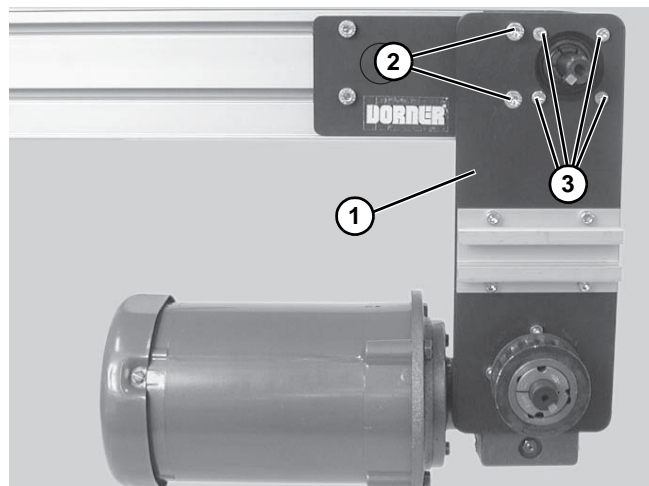

Figure 9
4. Attach mount assembly (**Figure 9, item 1**) with two (2) M8 screws (**Figure 9, item 2**) and four (4) M6 screws (**Figure 9, item 3**). Tighten M6 screws to 146 in-lbs (16.5 N-m) and M8 screws to 288 in-lbs (32.5 N-m).